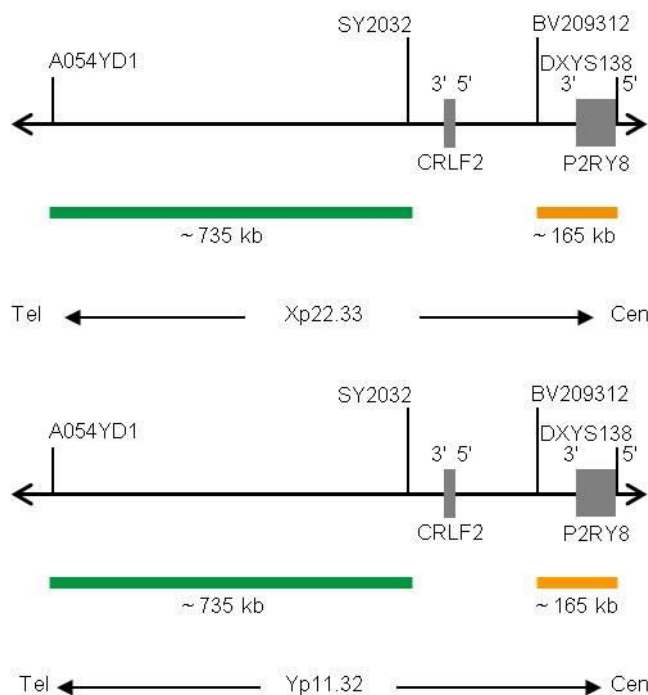

Fig. 1: Top: X-Chromosome SPEC CRLF2 Probe map (not to scale); Bottom: Y-Chromosome SPEC CRLF2 Probe map (not to scale).
- ZyGreen (excitation 503 nm/emission 528 nm) labeled polynucleotides (~10.0 ng/μl), which target sequences mapping in Xp22.33 (chrX:513,125-1,245,395), and Yp11.32* (chrY:463,125-1,195,395) distal to the CRLF2 breakpoint region (see Fig. 1).
- ZyOrange (excitation 547 nm/emission 572 nm) labeled polynucleotides (~4.5 ng/μl), which target sequences mapping in Xp22.33 (chrX:1,497,976-1,660,328), and Yp11.32* (chrY:1,498,976-1,657,328) proximal to the CRLF2 breakpoint region (see Fig. 1).